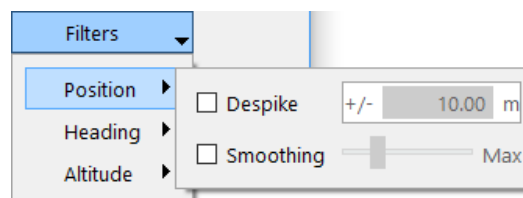

Figure 40. Filters options
11. Set the despike and smoothing filters for position, heading and altitude (Figure 40).